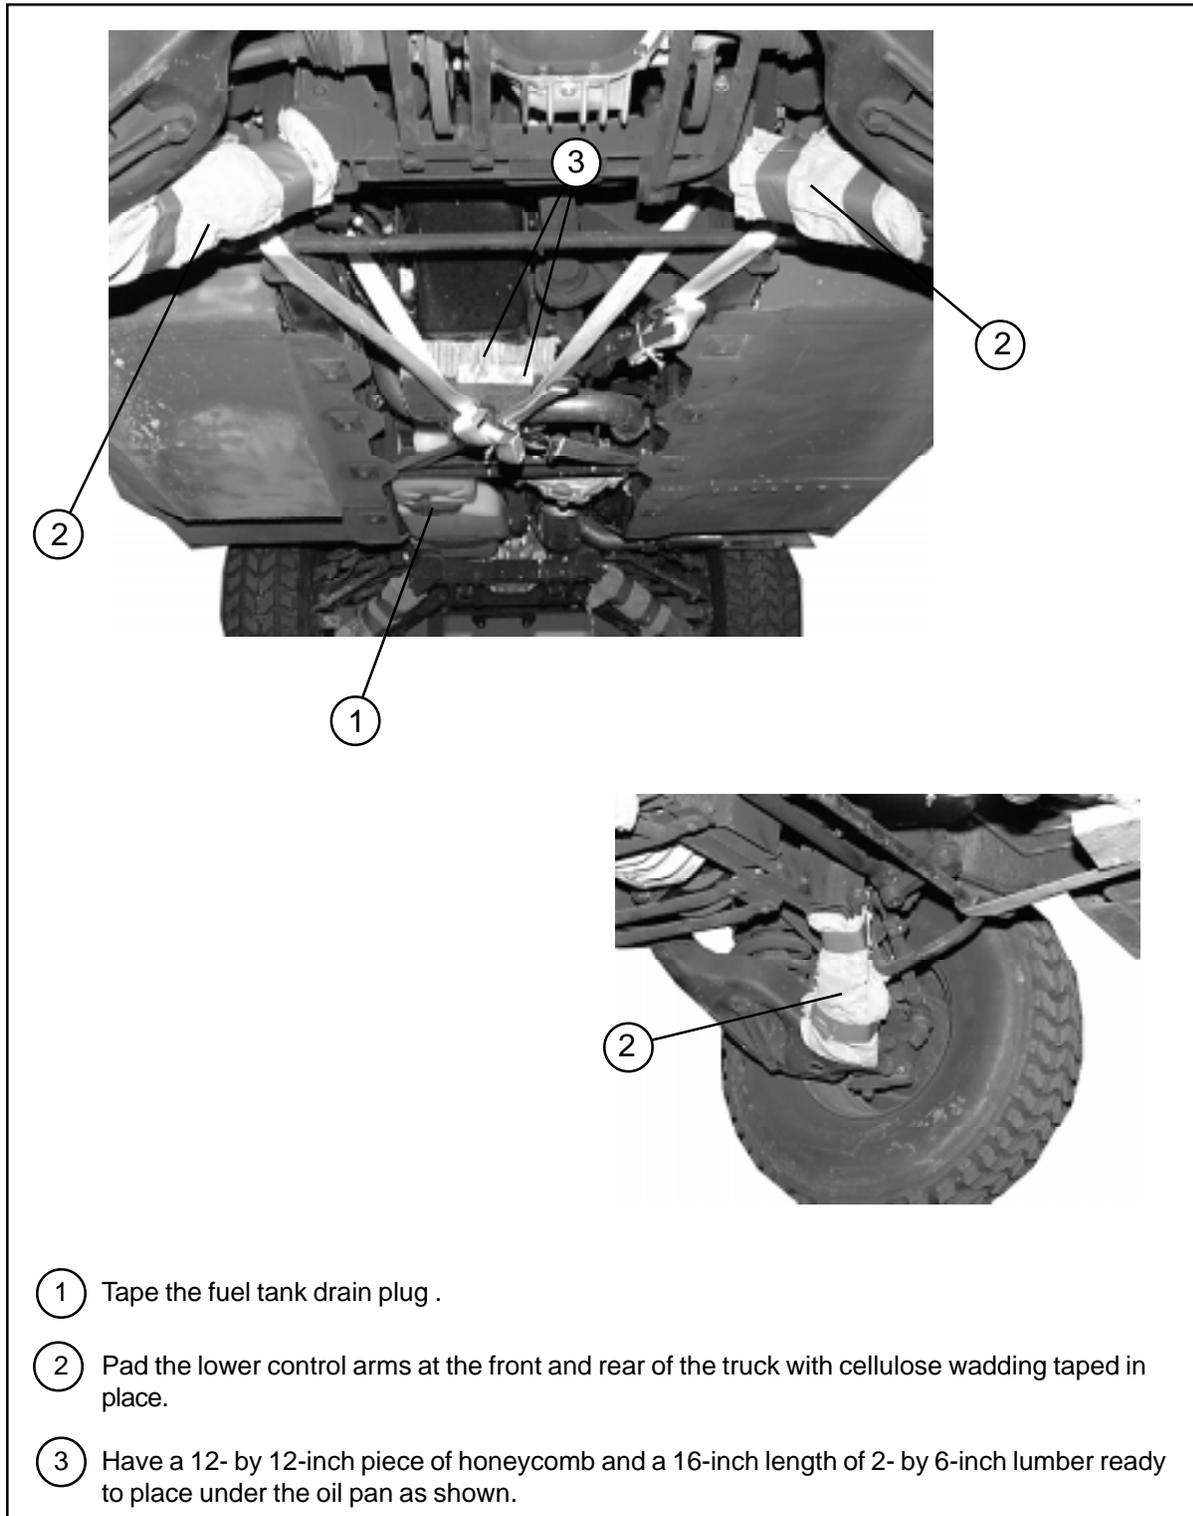

Figure 4-22. Underside of Truck Prepared
- c. Prepare the underside of the truck as shown in Figure 4-22.